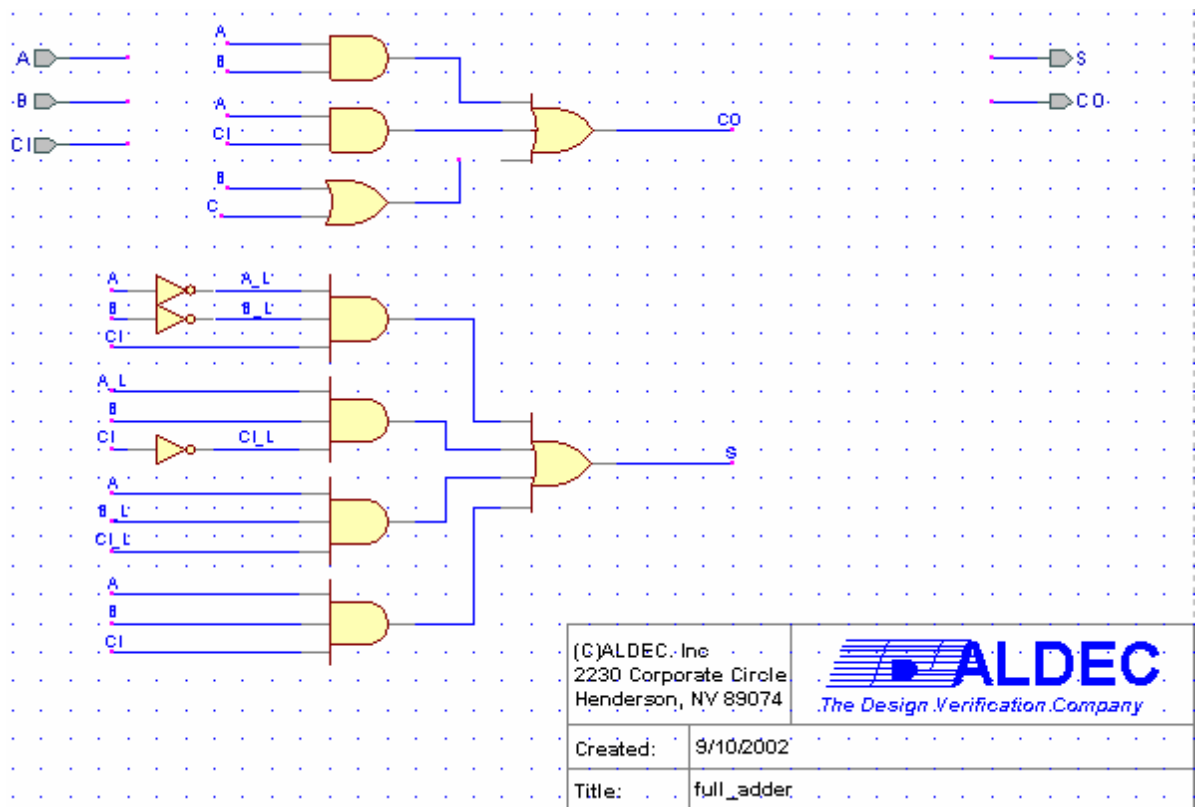

Figure 43
We will walk through a simple, yet common, scenario with a schematic that contains errors and warnings. Some of these problems can be pinpointed and solved by simply running a check diagram and reviewing the DRC. However, the DRC cannot find and report your logic errors. What do you do if you have checked your design, compiled successfully, and when you run your simulation, your results are flawed? The techniques below will show you how to use the tools provided by Active-HDL to trouble-shoot your design, and fix some of the most common mistakes. We used Figure 43 in the following steps to demonstrate the debugging process.
1. First, we saved, and checked our design. When checking the schematic shown in Figure 43, Active-HDL generated the DRC report shown below.